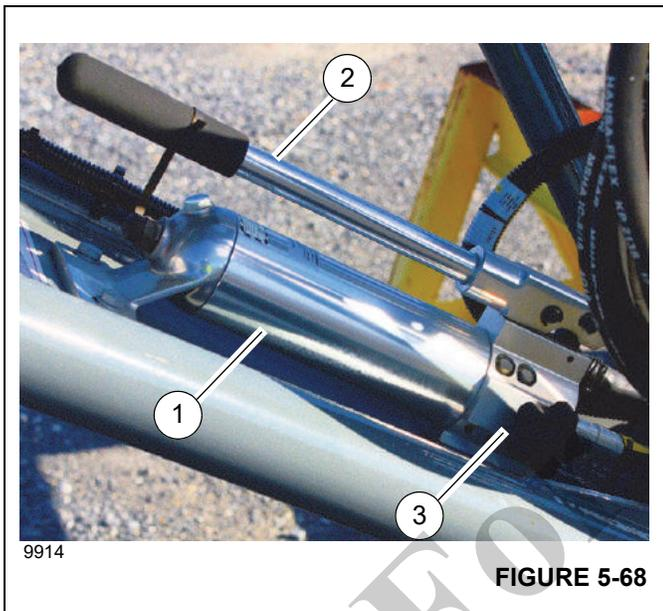

FIGURE 5-68
17. Install four pins (5, Figure 5-39) and retaining clips (6) to secure the boom extension to the boom nose. If necessary, use the jack (1, Figure 5-68) to install the fourth pin: